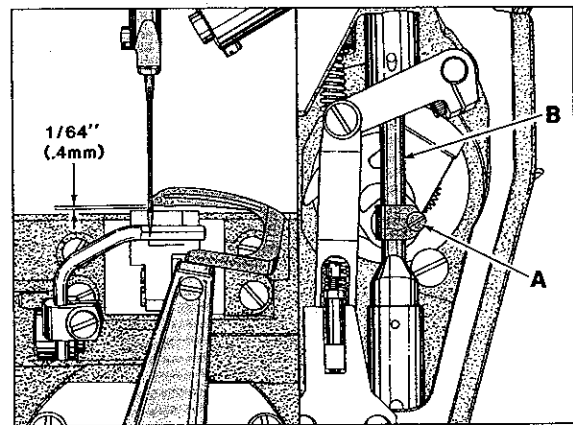

Fig. 8
Turn handwheel in operating direction until tip of looper is even with left side of needle. TOP of needle eye should be  $1/64$  inch (.4mm) below TIP of looper (as shown in Fig. 8). Adjustment can be made by loosening screw (A, Fig. 8), move needle bar (B) up or down as required, retighten screw (A) to 8 in-lbs (9.22cm/kg).